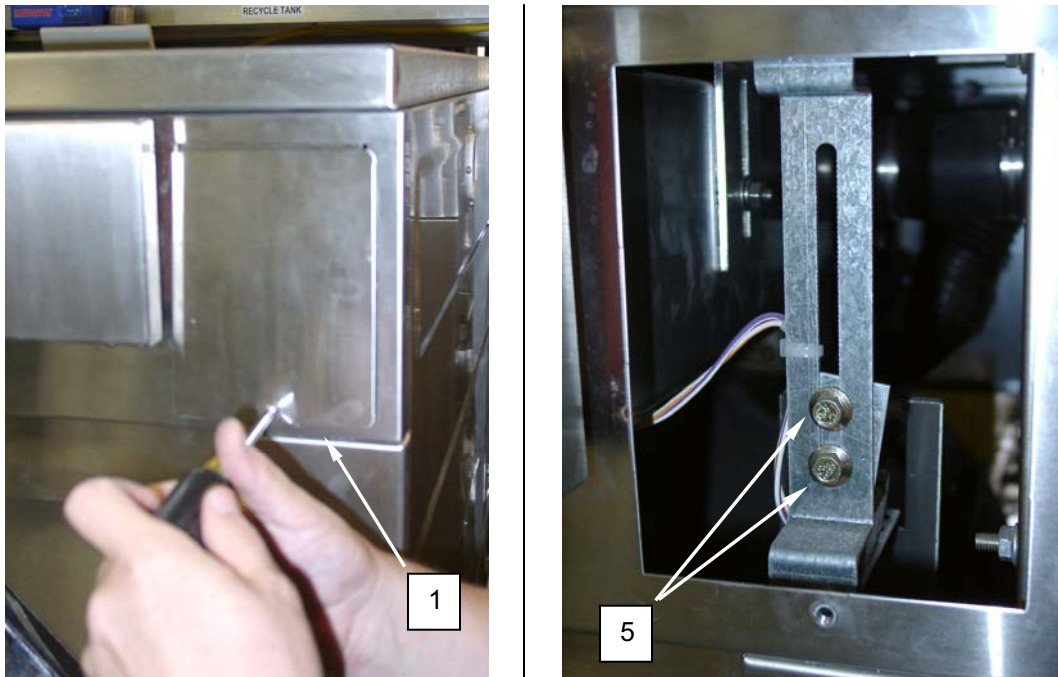
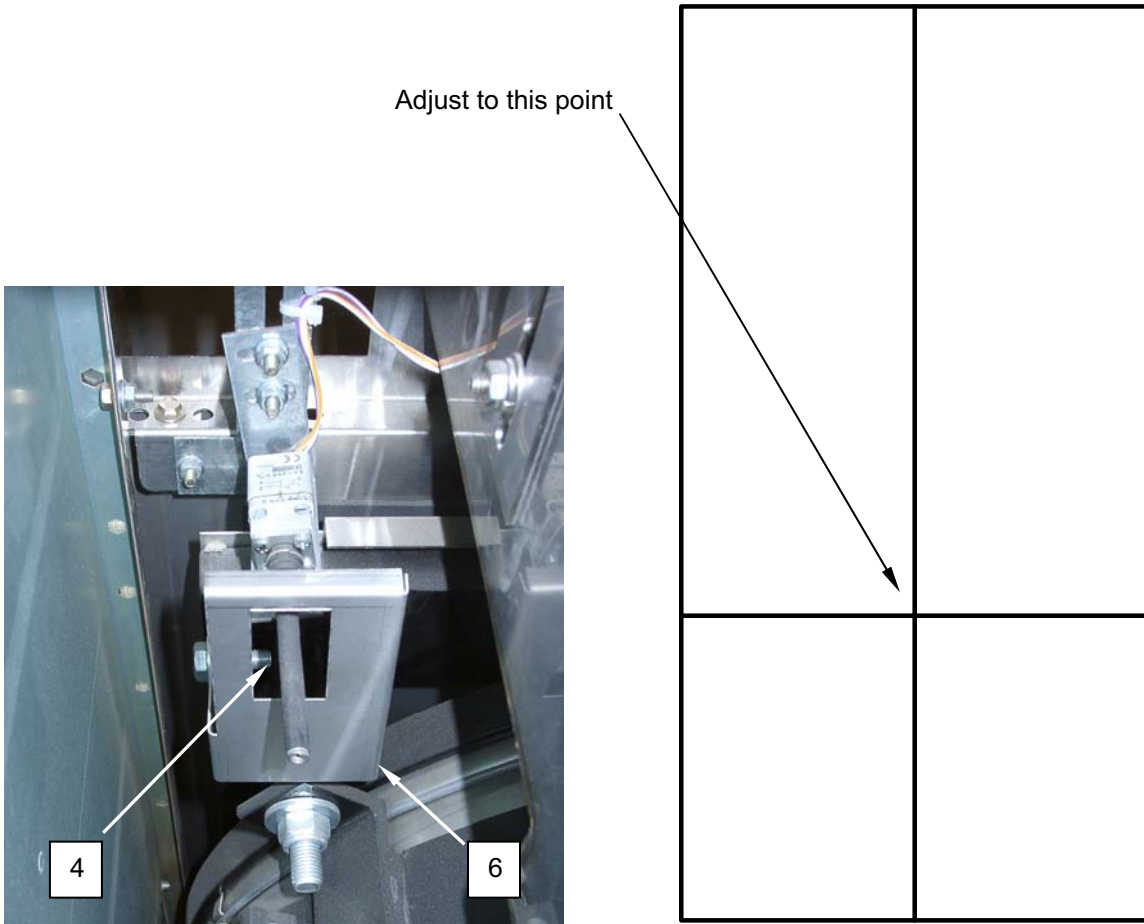

Figure 3. Adjust the Balance Switch.
Figure 4. Adjust the Balance Switch.
2. Remove the screw retaining the washer right front panel (**Figure 3, Item 1**), and remove the right front panel.
3. Loosen the screws (**Figure 3, Item 5**) retaining the balance switch, and adjust the balance switch to locate the trigger spring (**Figure 4, Item 4**) in the horizontal center of the trigger spring window (**Figure 4, Item 6**), and approximately 1/3 the distance from the bottom of the trigger spring window.
4. Tighten the balance switch retaining screws (**Figure 3, Item 5**).
5. Install the washer right front panel (**Figure 3, Item 1**) and retain with screw.